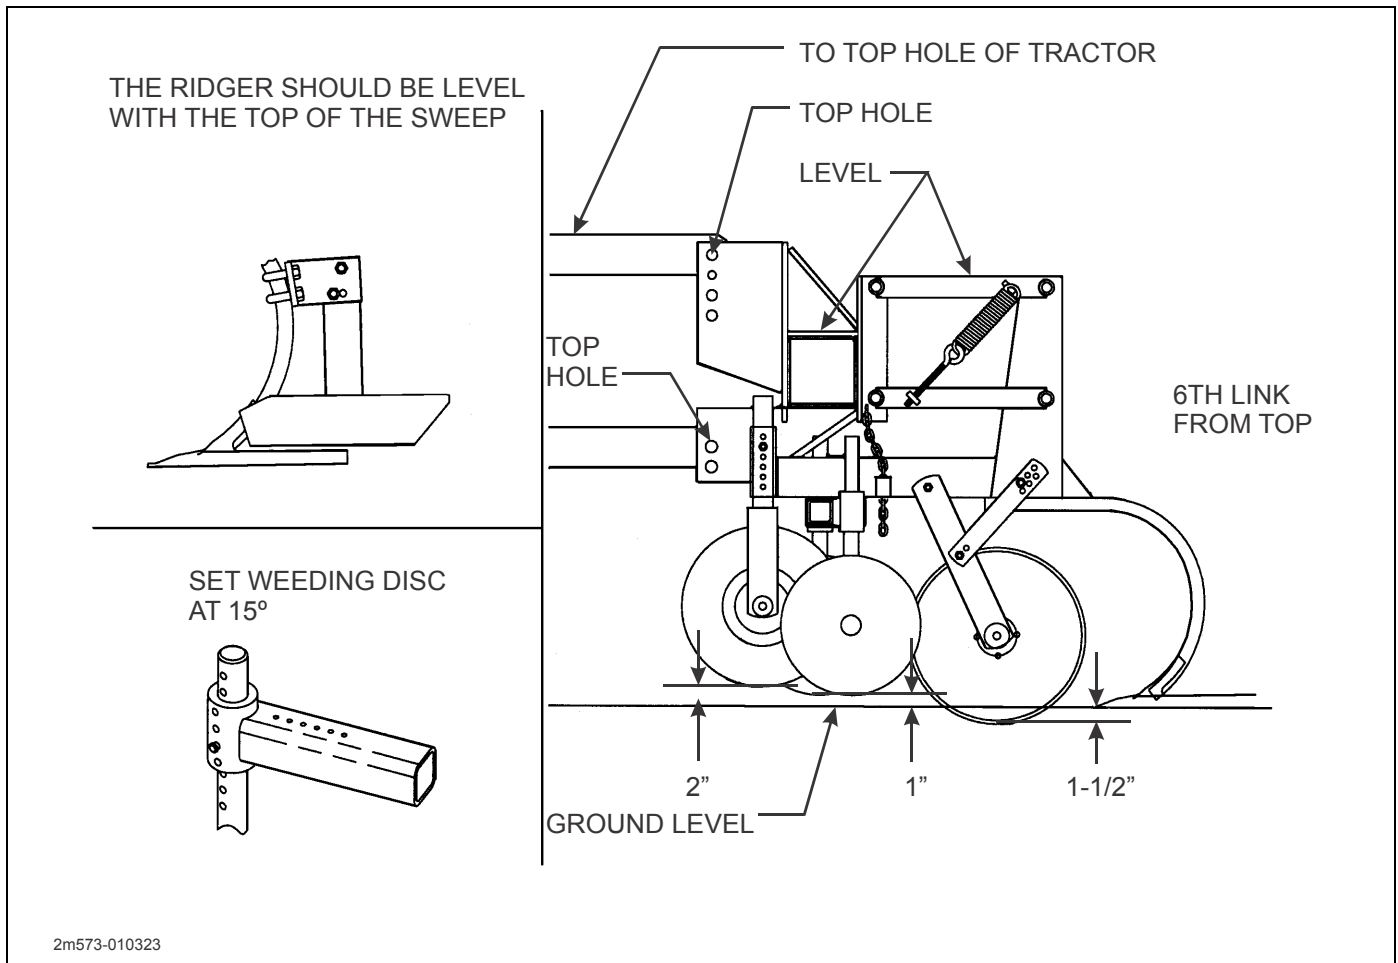

Figure 4-2: Recommended Settings for Initial Setup
4. Adjust weeding discs to 1" above sweep at a 15° angle (**See Figure 4-2.**)